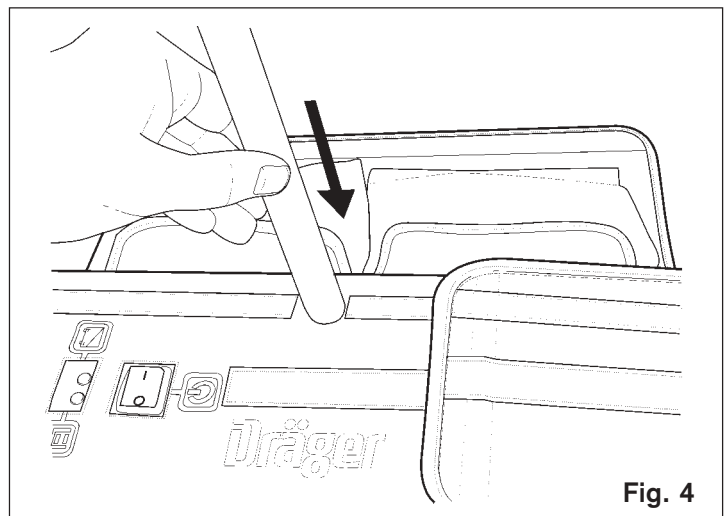
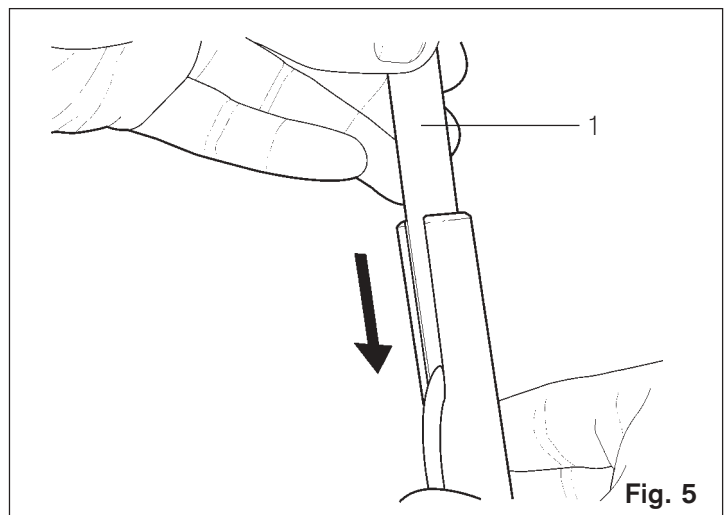

Fig. 4
Fig. 5
Refer to Figures 4 and 5.
- ◆ Insert the end of the antenna support tube (Fig. 4) into the location hole in the case. Insert the antenna (1) Fig. 5 into the support tube.